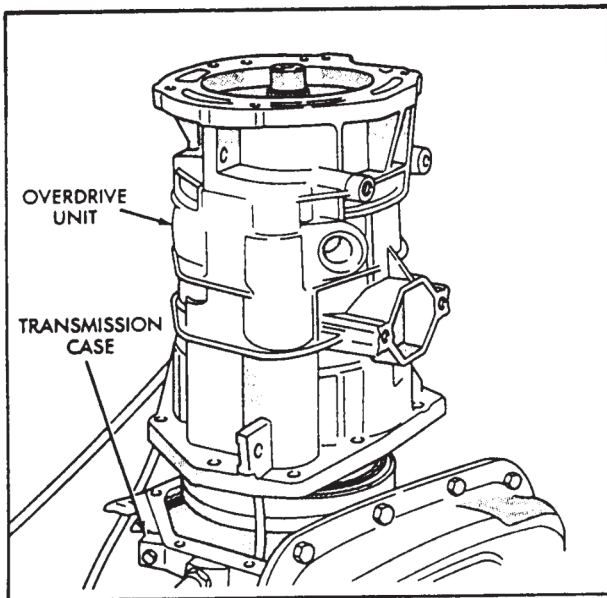

Figure 44
65. Raise overdrive unit, carefully slide it straight onto intermediate shaft as shown in Figure 44.